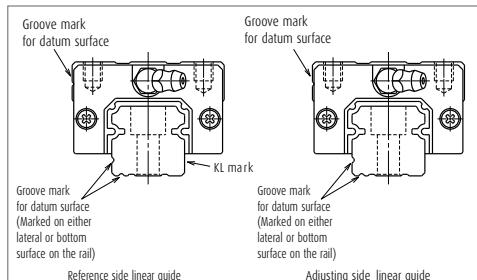

Fig. 1 Datum surface
- › In case that two or more linear guides are used together, one linear guide is designated as a reference side guide, and the rest is adjusting side guide(s). The reference side linear guide has its reference number, serial number, and "KL" mark on the opposite side of the datum surface (Fig. 1).